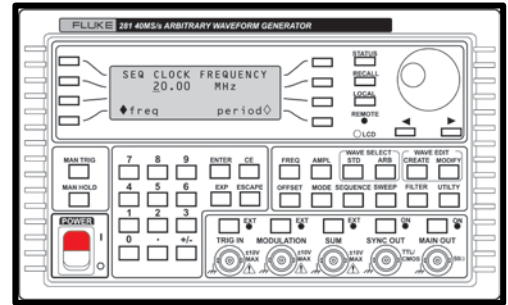

Figure 5.5 Fluke AWG power switch
1. Locate the POWER switch on the Fluke AWG and turn to the ON (I) position. See **Figure 5.5**.